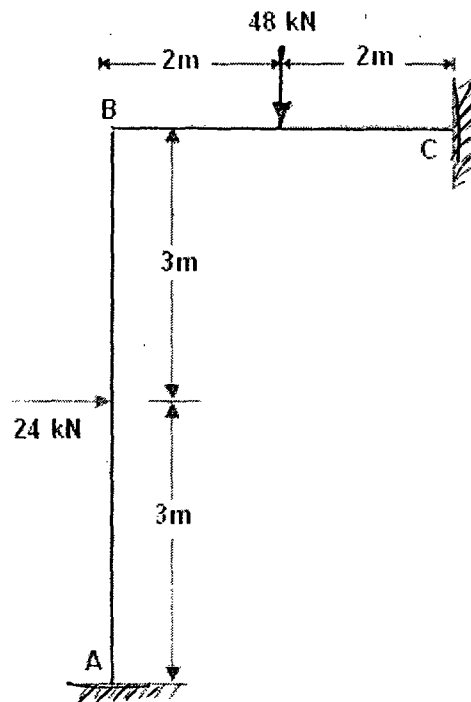

Fig. 15b
- b) Analyze the rigid frame shown in Fig 15b by direct stiffness matrix method. Assume $E=200$ GPa, $I_{zz} = 1.33 \times 10^{-4} \text{ m}^4$ and $A = 0.04 \text{ m}^2$. The flexural rigidity EI and axial rigidity EA are the same for both the members.